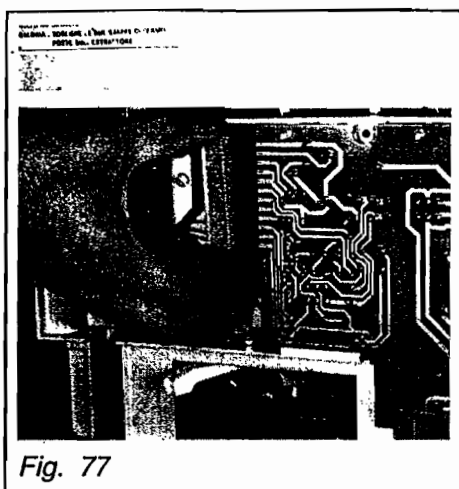

Fig. 77
- (d) Carefully pull off PCB connectors - one from each end of PCB - to disconnect PCB from wiring loom of boiler. Fig.77.